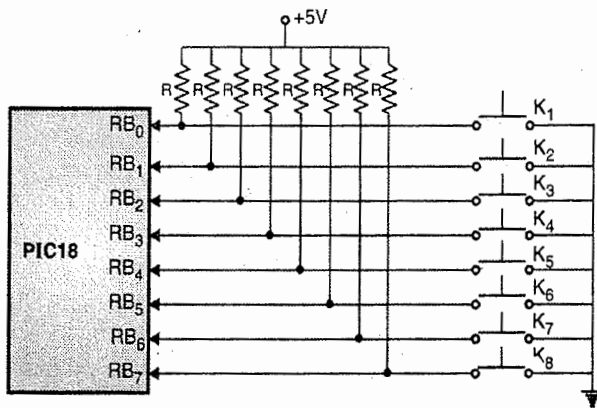

Fig. P. 10.3.1
**Soln. :** Fig. P. 10.3.1 shows how a simple keyboard is interfaced to PIC18 microcontroller.
As shown in Fig. P. 10.3.1 eight keys are connected to PORTB pins. Each port pin gives the status of key that is connected to that pin.